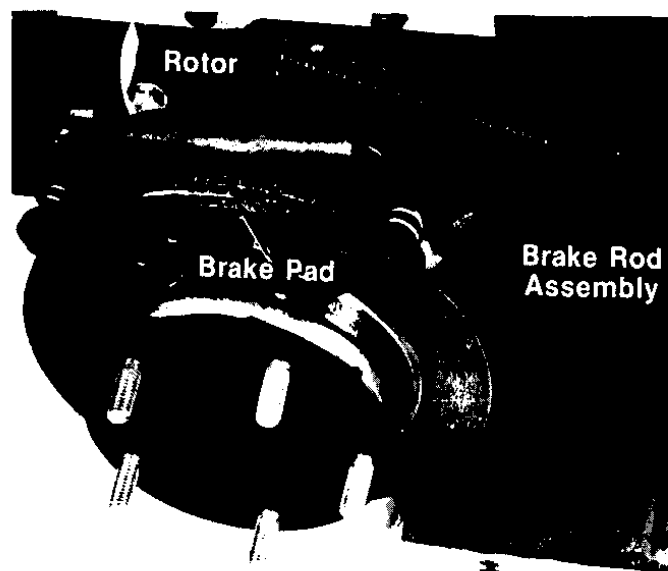

FIGURE 17.
Thread the clevis onto the brake rod one turn. Reconnect the clevis to the jackshaft assembly. There should be a minimum amount of clearance (no drag) between the brake pads and the rotor. See figure 17. If not, repeat adjustment as necessary.
**NOTE:** Figure 17 is shown with the wheel and fender assembly removed for clarity.